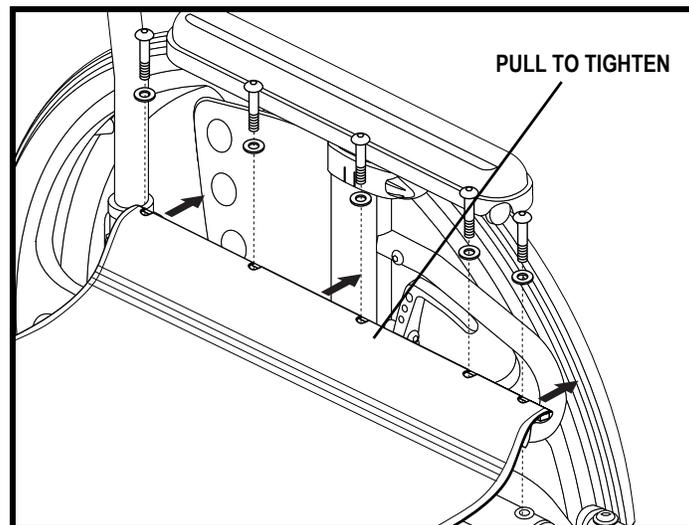

Figure 46. Seat Tension Adjustment
1. Loosen the screws that attach the seat to the side rail on the left side (side with hook and loop fastener). See figure 46.